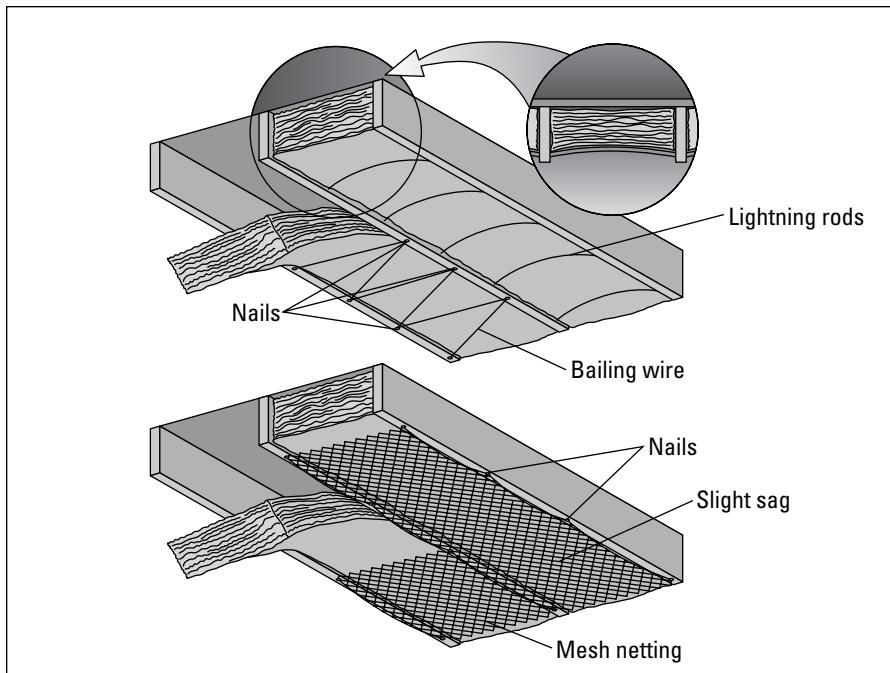

Figure 6-1:
- ✓ **To replace insulation netting,** lightning rods (named for their speedy installation) are a handy alternative to netting or bailing wire. These lightweight, flexible steel rods hold the insulation in place by spring tension. Just place one end of the rod against the side of a floor joist and bend it slightly so that the other end is forced into place against the face of the opposite joist (see Figure 6-1). Use one hand to hold up the insulation and the other hand to whip the lightning rod into place. Lightning rods are available at hardware stores and home centers.